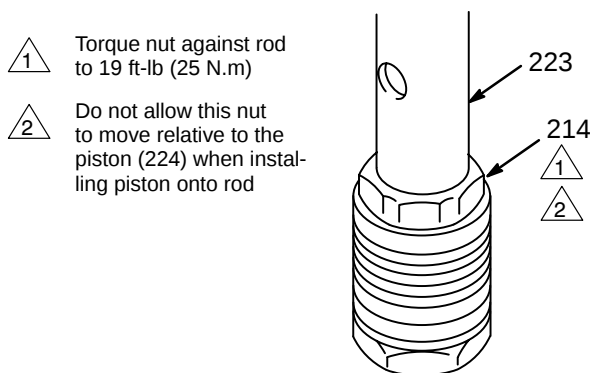

Fig 35
4. Torque the nut (214) against the rod (223) to 19 ft-lb (25 N.m). Use two wrenches to maintain the alignment as mentioned in the **NOTE** above. See Fig 35.